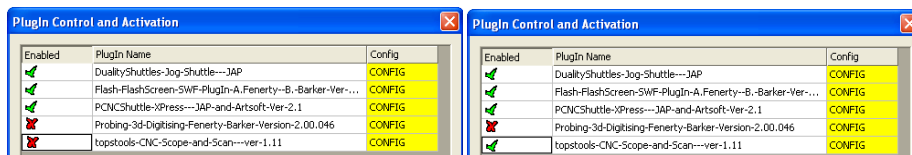

Figure 3. Enabling the topstools Plug-ins for CNC Scanner and Scope
3. Ensure that the plugin *topstools* is enabled (displays Green Check Mark next to the name). If a Red X appears instead, click on the box to enable and switch to a Green Check Mark. See Figure 3.